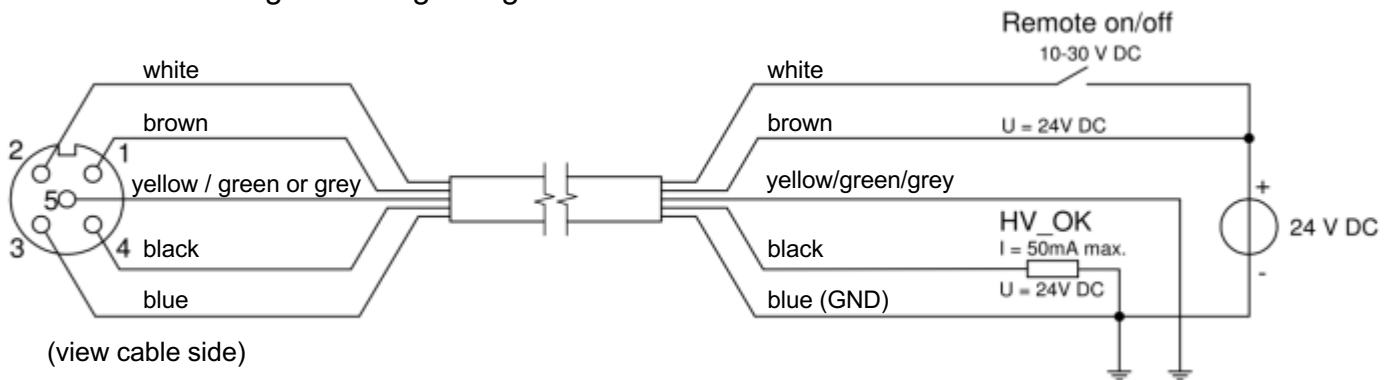

Figure 6: Wiring EasION
- Connect the wiring according to Figure 6.